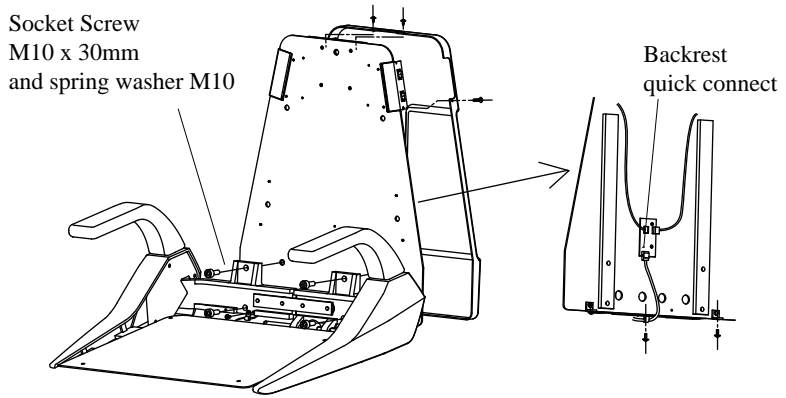

Fig 4-2-3
- 7) Remove 4 screws securing backrest cover to backrest frame. Attach backrest frame using 4 large screws. Connect backrest quick connect plug to chair. Tie up any excess wire. See Fig 4-2-3